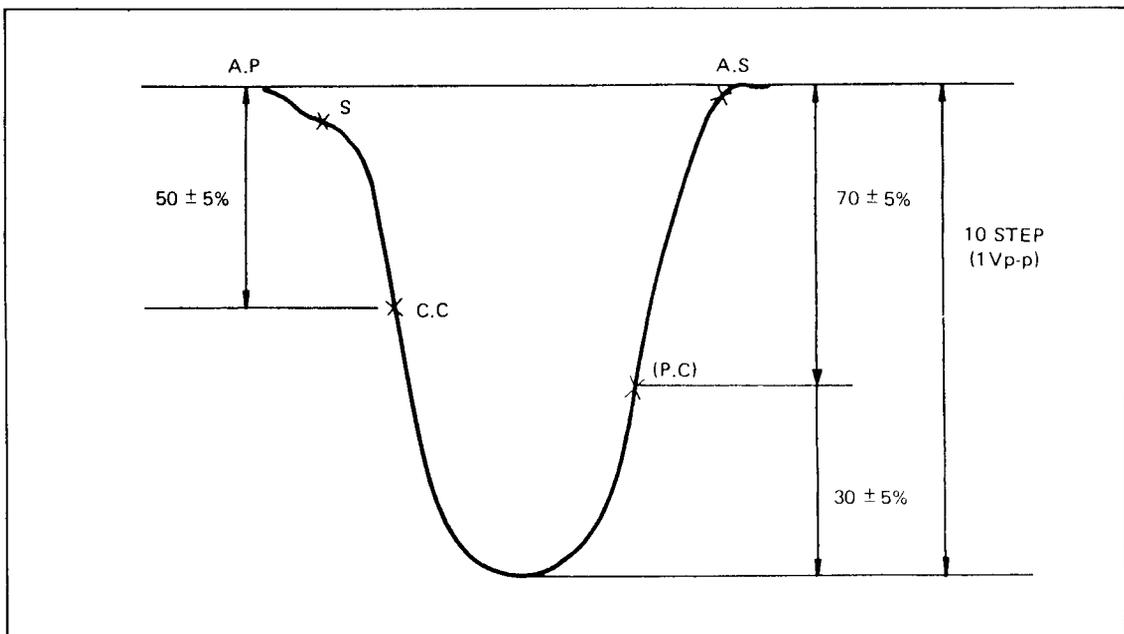

Fig. 3-2-17
- c) Adjust T703 so that the waveform is the same as Fig.3-2-17